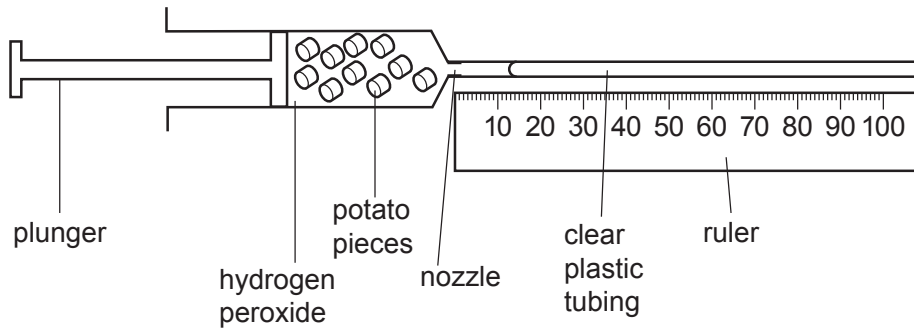

Fig. 1.5
- (b) A student investigated the effect of hydrogen peroxide concentration on the activity of catalase. The student measured the distance the solution moved along a clear plastic tube attached to a syringe, as shown in Fig. 1.5.